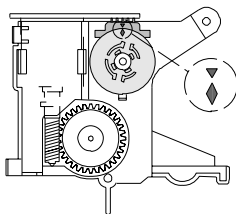

Fig. 10
- Turn the control wheel of the mode switch (Fig. 10) so that the rhombus and the triangle are opposite each other.